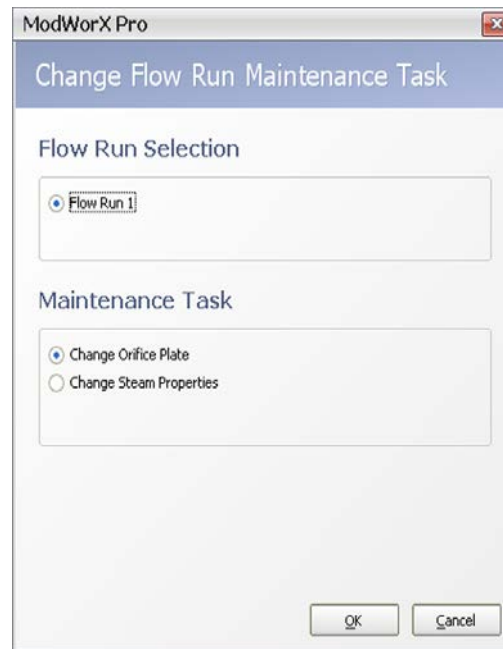

Figure 9.10
1. If Change Steam Properties is not displayed in the Maintenance Task field at the top of the Maintain Flow Run screen, click on **Change Task**. The Change Flow Run Maintenance Task dialog will appear (Figure 9.10, page 127).